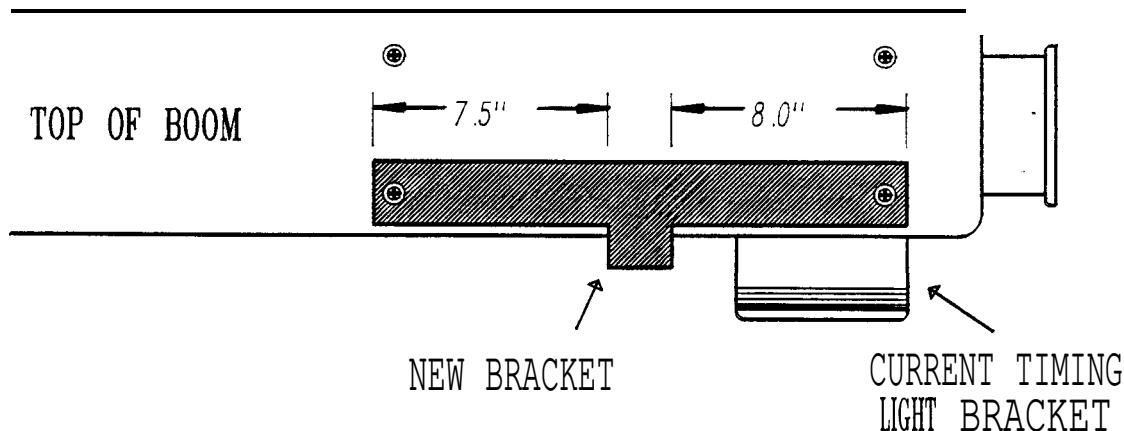

FIGURE 1 TIMING LIGHT BRACKET MOUNTING POSITION Printed in U.S.A.
1. Remove the two screws on-top of the Boom as shown in Figure 1.